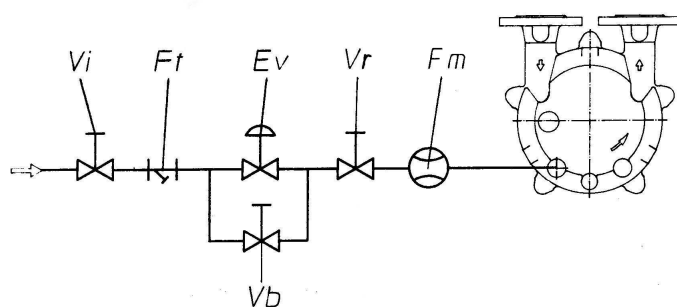

Fig. 2
- 藉由阀 Vr (见 Fig. 2)调整入水量. 由流量计 Fm 检查流量或由出口水气分离桶之排水口检查。
- Adjust the flow of service liquid by means of the valve Vr (see Fig. 2) checking the flow value by means of the flowmeter Fm or, if missing, by measuring the flow of the liquid from the separator to drain.